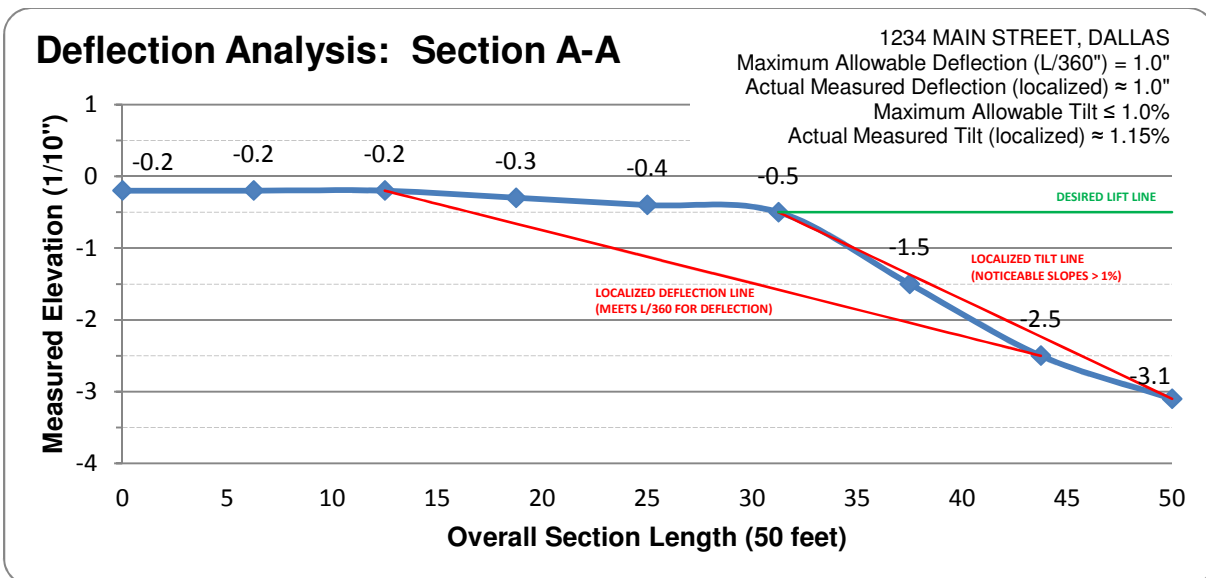

Figure 1: Deflection Analysis Cross Section A-A
6. **Elevation Analysis:** Industry standard tolerance for foundation performance (as defined by the Texas Chapter of the ASCE) is less than L/360 overall or local deflection and 1.0% tilt. This criteria, and my experience and judgment, was used to evaluate the performance of the foundation. Figure 1 below shows a graphical depiction of the actual deflection and tilt across the profile section A-A as shown on Drawing 1001.